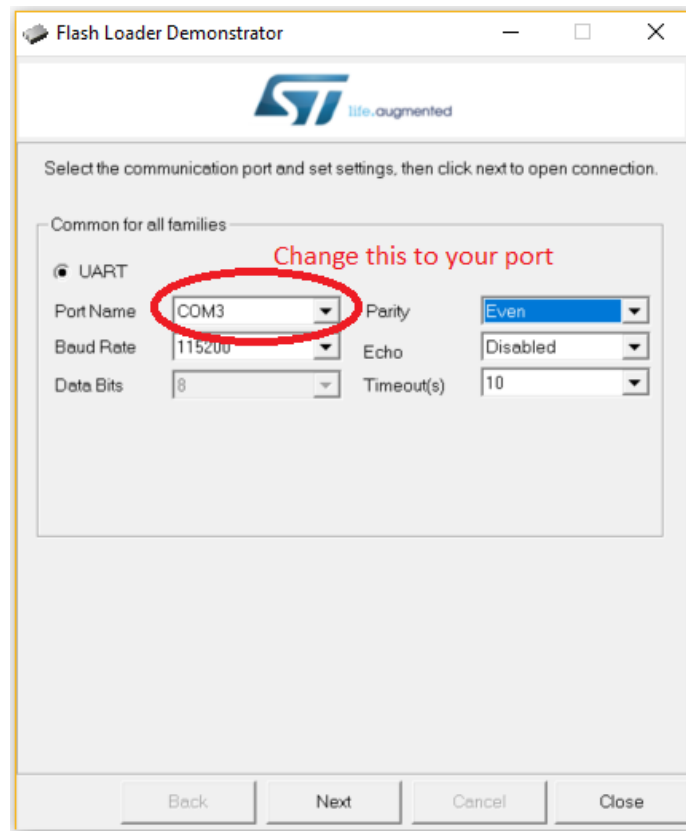

Figure 2 | Flash loader tool
- Configure the parameters as in Figure 2 (port name should correspond to the one assigned to the board) and press Next